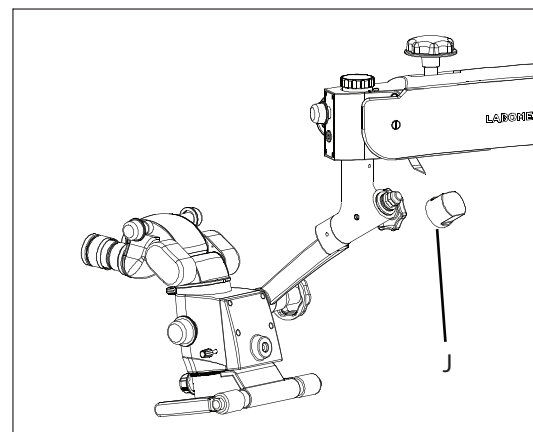

Fig. 51
Refer Fig. 51. Unscrew Knob (J). Adjust Tension by manipulating two Hex nuts and screw back the cap (J) as explained in section 7 of installation Chapter.